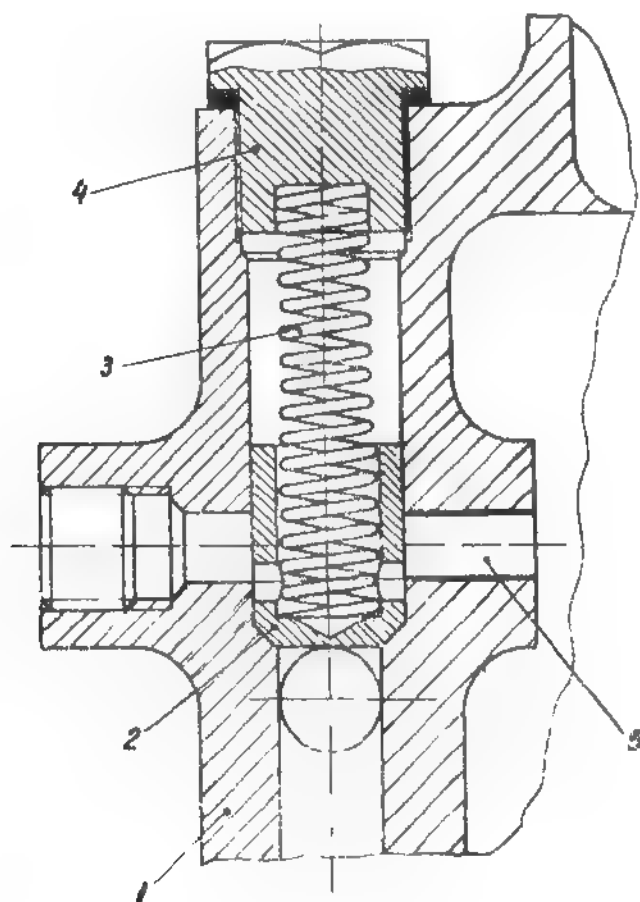

Fig. 4.14. OIL PUMP PRESSURE CONTROL VALVE.
The pressure control valve is of plunger type, and, besides the safety relief valve role, it has also a regulating one, maintaining at different pump speeds an adequate pressure in the lubricating system (see fig. 4.14).
- Unscrew the plug (4) - see fig. 4.14 - and remove it with its gasket.